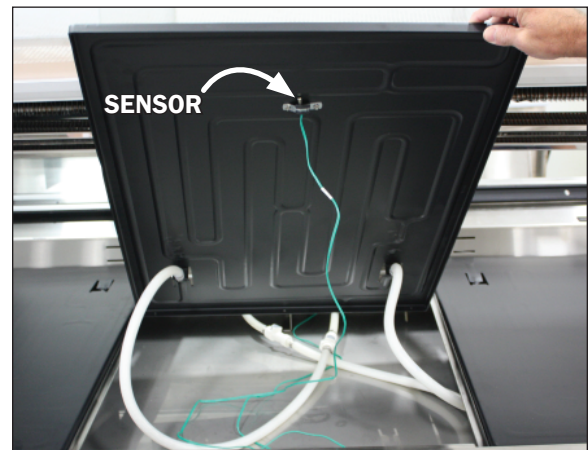

Fig. 18 Coolgenix pan sensor
2. Remove the pan sensor (Fig. 18) located on the center deck pan by sliding the sensor out of the bracket attached to the bottom side of the Coolgenix pan.